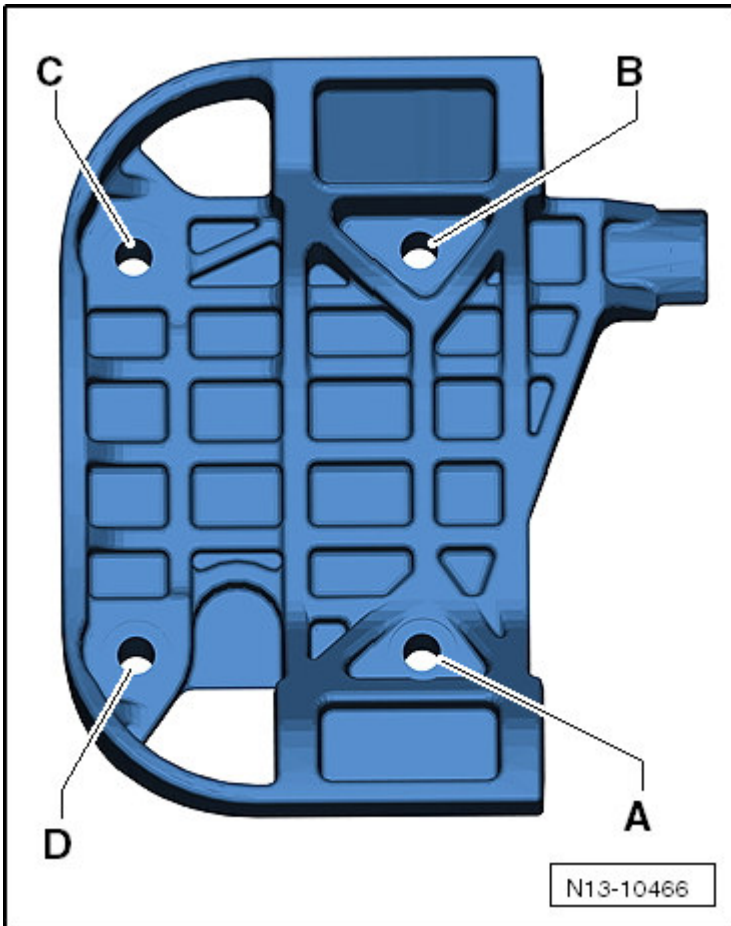

Fig. 3: Generator Bracket Tightening Sequence
- Follow the tightening sequence, refer to **Fig. 3**.